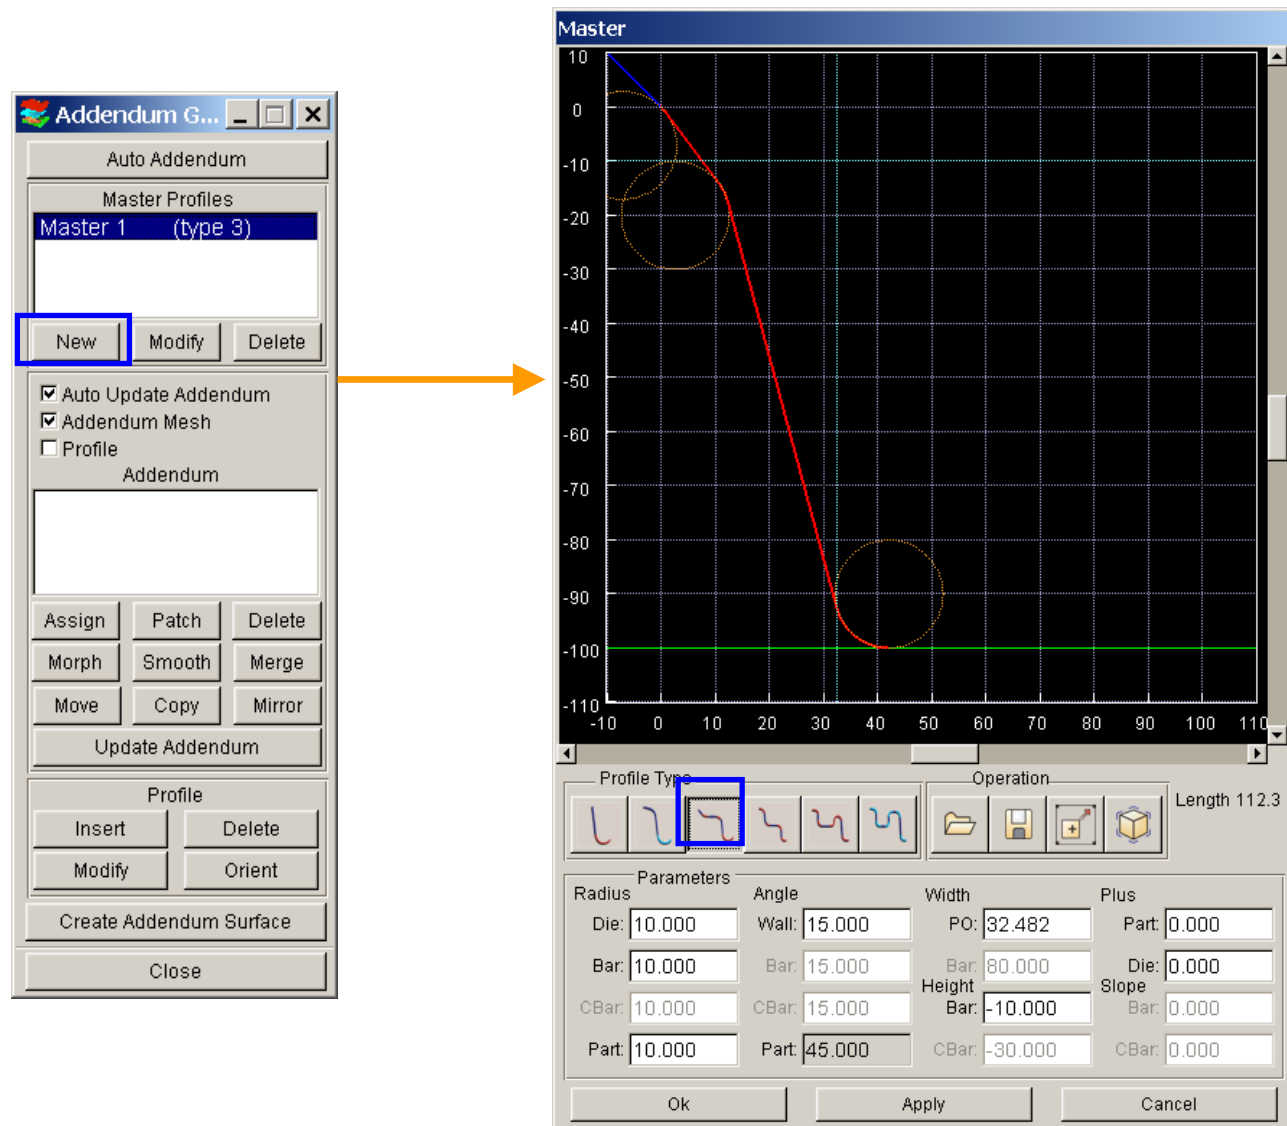

Figure 4.21
- c) Click **New** (Master Profiles) (See Figure 4.21)
- d) Select Profile Type **#3**, as shown in Figure 4.21